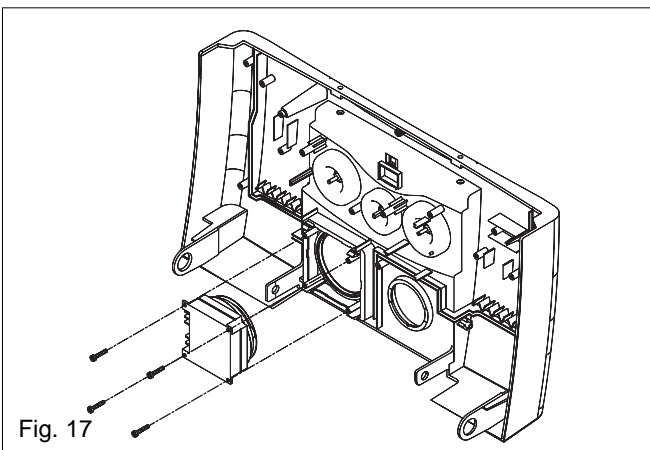

Fig. 17
- Remove the push-out blanking disc from the clock aperture plate (fig. 17).
- Secure the clock to the aperture plate using the screws provided with the clock (fig. 17).